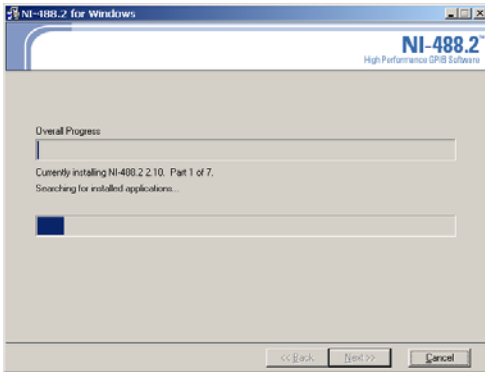
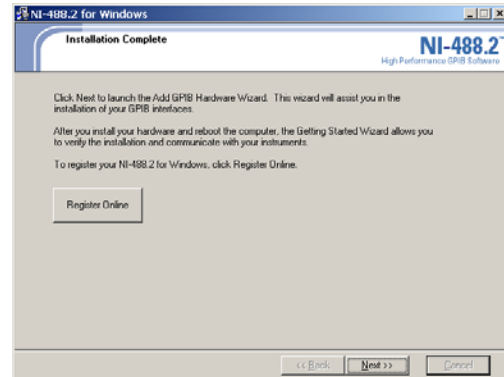

Figure 5A. Installation progress
Figure 5B. Installation complete
8. The application will begin the installation process, as shown in Figure 5A. When it is finished (Figure 5B), register if you like, then click on the **Next >>** button to install the GPIB interface.